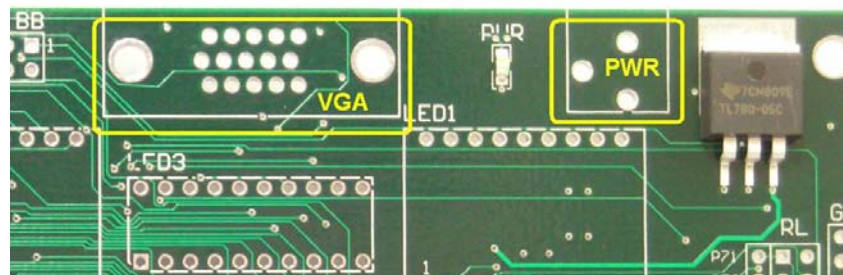

Figure 3: Locations for VGA and PWR connectors.
9. Solder the VGA and PWR connectors into the remaining silkscreen outlines on the top of the PCB. Figure 3 shows the locations for these connects; they are **not** labeled on the silkscreen.